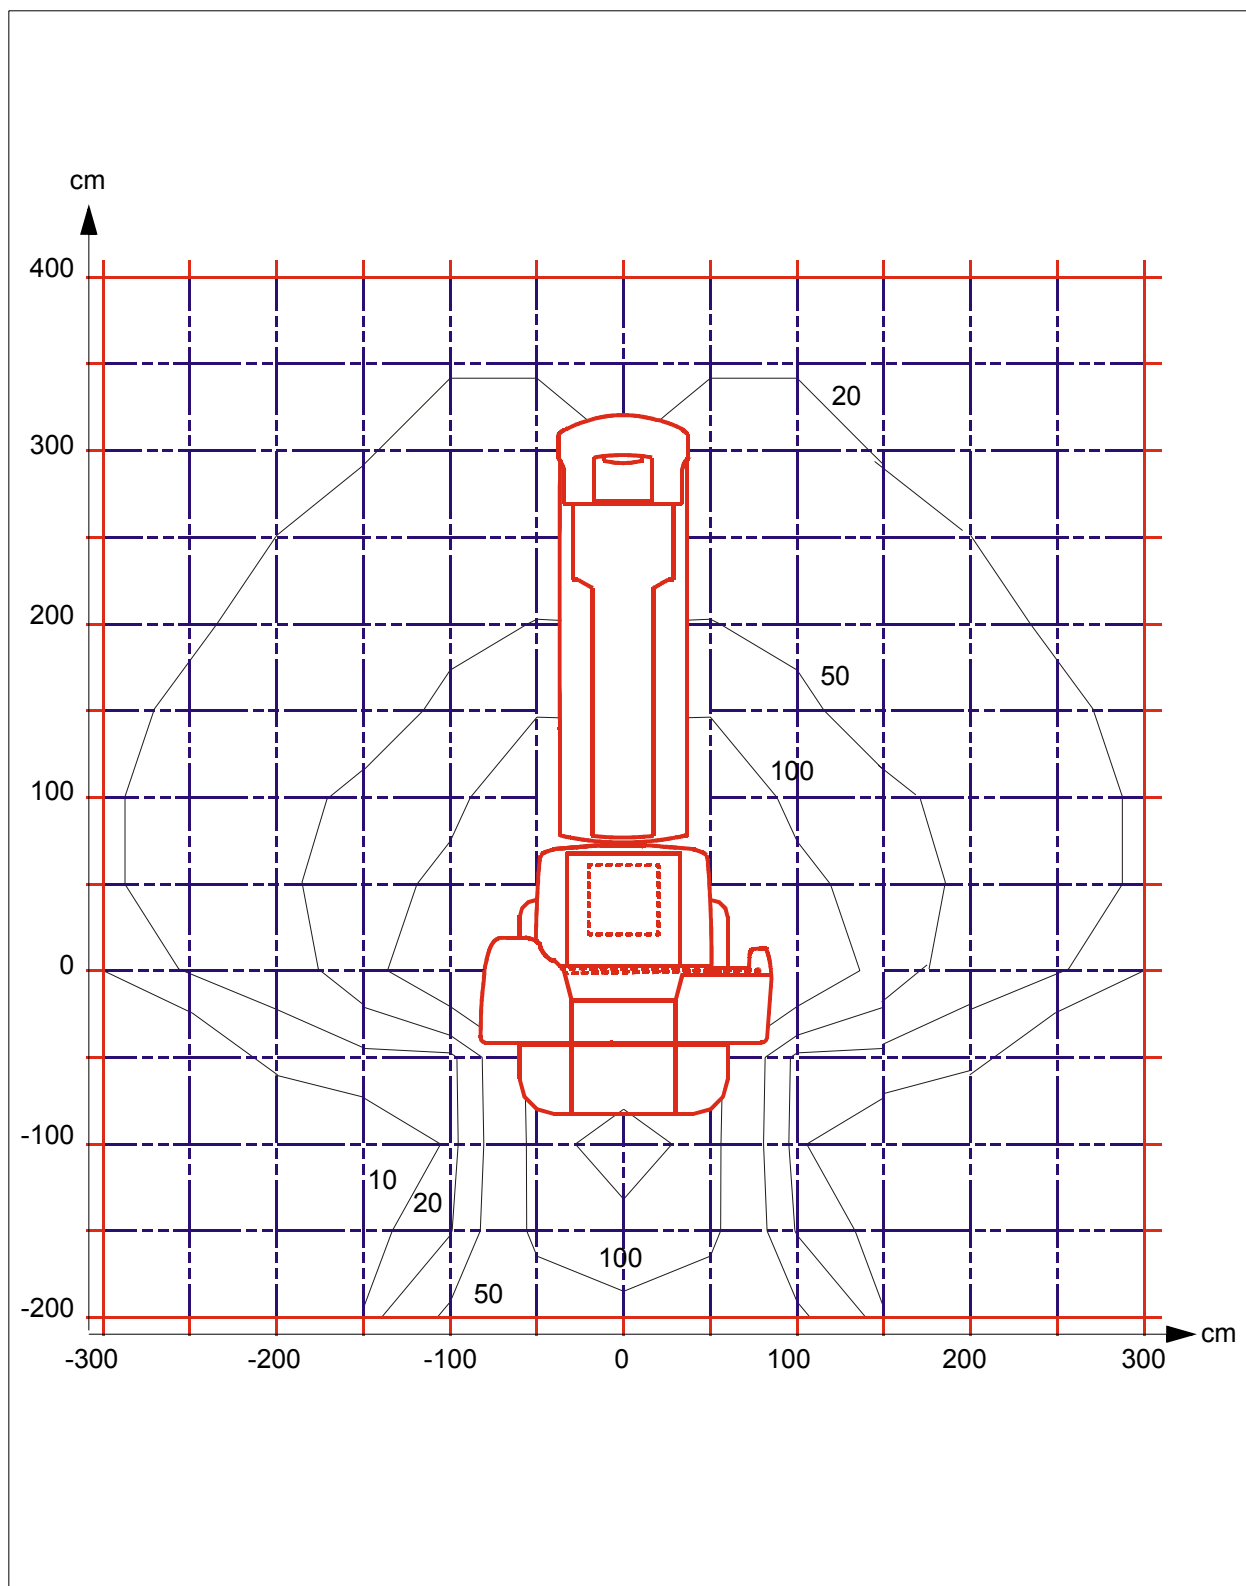

Figure D-1. X-Ray Scatter Radiation Isocontours in $\mu\text{Gy/hr}$
- For system positioning in order to avoid X-ray penetration to adjacent rooms, please refer to Figure D-1, X-Ray Scatter Radiation Isocontours.
The dose values in Figure D-1 were measured while scanning a phantom, and represent the dose rate from leakage and scatter from the phantom while X-rays are ON.